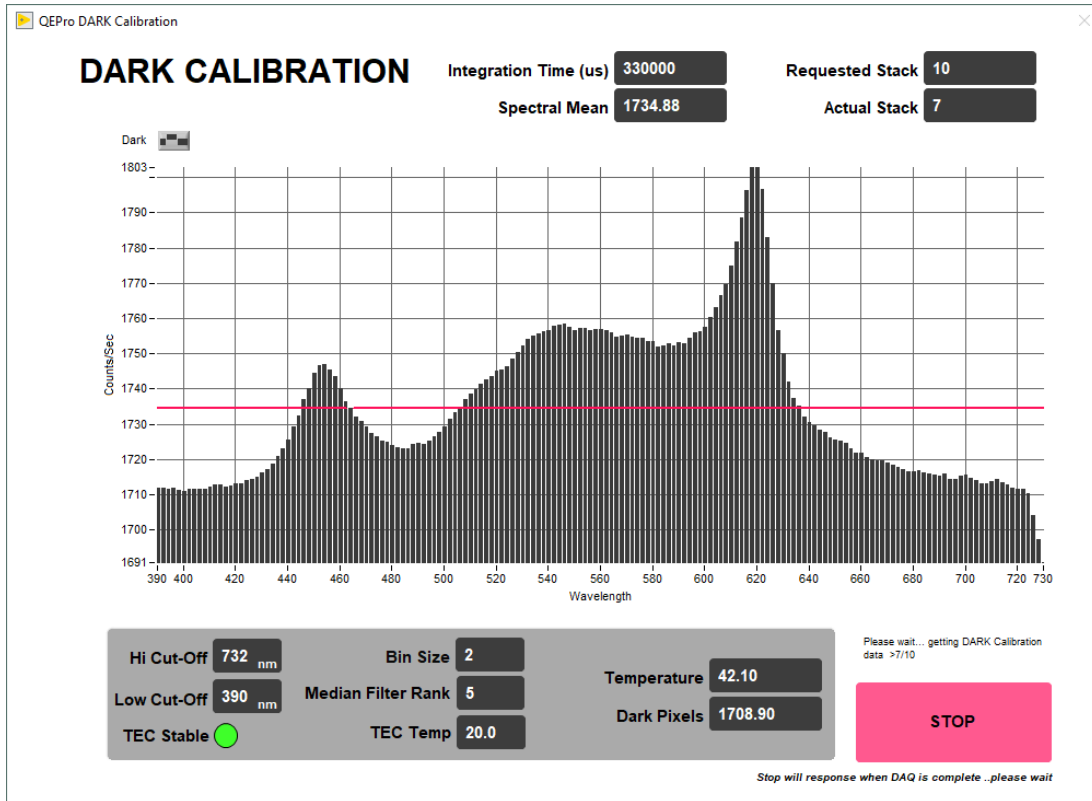

Figure 9. DARK Calibration Screen
5. After the WHITE measurements are completed, the shutters on the light sources will close and the DARK measurement will acquire 20 measurements. The dark measurement is a baseline measurement that includes thermal noise of the system. On the screen (Figure 9):